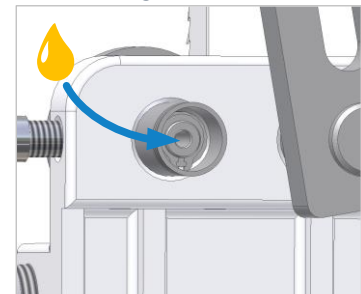

Figure 42: Oil back roller
- Unscrew the sealing cap from the back roller bearing (⇒ Figure 42).